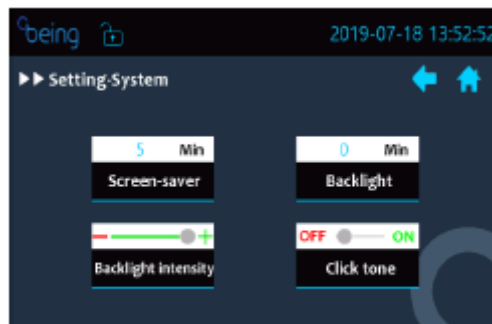

Figure 1-24.
9. Touch the “System settings” button from the setting page to enter the system settings page, as shown in Figure 1-24.